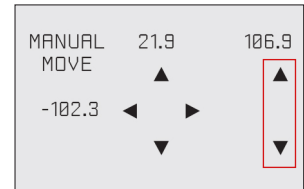

Fig. 19
2. Using the up arrow on the right side of screen, move the print plate up far enough to remove the foam. (Fig. 19)